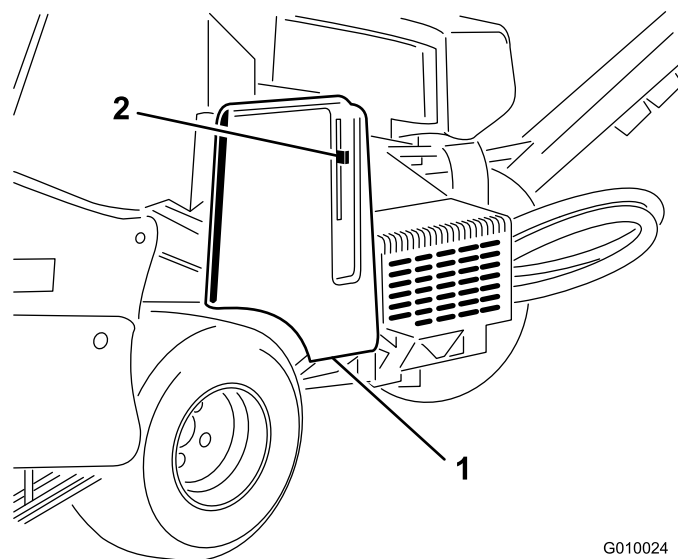
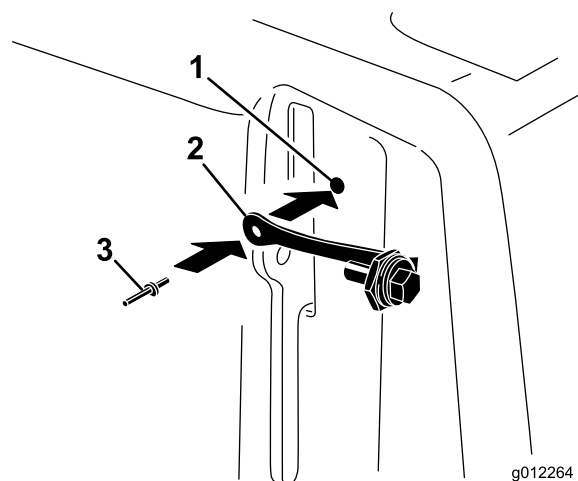

Figure 8
Figure 9
- Locate the hole in the belt cover next to the latch lever (Figure 8 and Figure 9).
- Using the hole in the belt cover, install the lanyard assembly with a pop rivet (Figure 9).